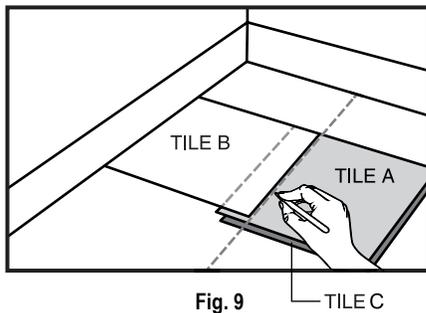

Fig. 9
- Use a whole piece as a measuring device, position one edge against the wall and mark the loose piece with a pencil along the opposite edge (Fig. 9).